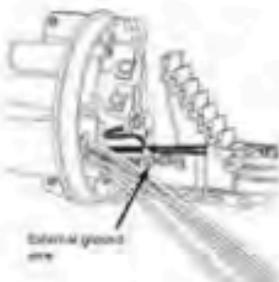

Figure 15
- Insert the installed through the port. Align each cable so that the sealed end of the strain relief (if present) is flush with the inside edge of the mounted part. If no cable blank is used, align inside edge of port with the end of the Vinyl tape wrap/krome buffer tube, or the distribution barrel cap (for thin wall tube only). For cables installed in the round part, align the distribution (thin) wall on top, and the flange (flat) side on the bottom. (Figure 15)
Grounding using the FGSC ACC 2-Bar (LAF GND KIT) (common or isolated grounding) (Figure 15)